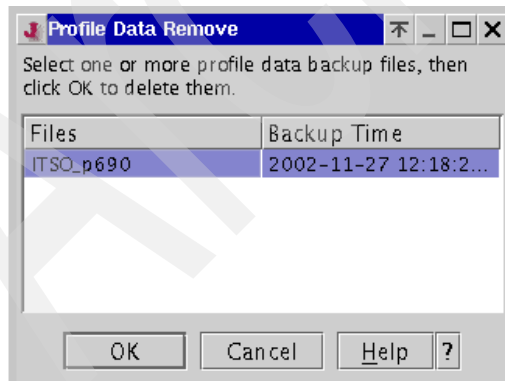

Figure 5-5 Profile Data Remove window
2. From the menu bar, choose **Selected** → **Profile Data** → **Remove** to open the Profile Data Remove window shown in Figure 5-5.